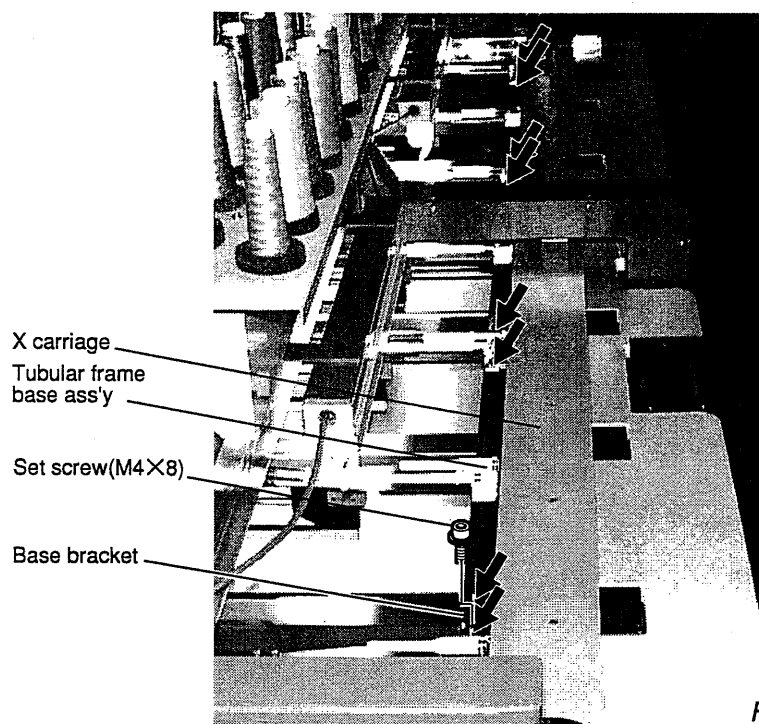

Fig. 1
- ※ Insert set screw lightly as shown in Fig. 1 for mounting border frame and tighten set screw pulling border frame toward an arrow mark (to your side).
- 2 Move X carriage to a position similar to Fig. 1.